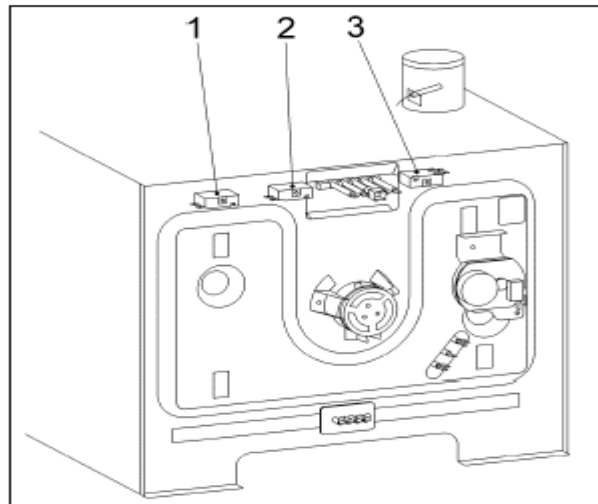

Figure 5-24: Temperature Regulators
With the oven door closed use a long Torx screwdriver to remove the screw as shown in Fig 5-24 (1)